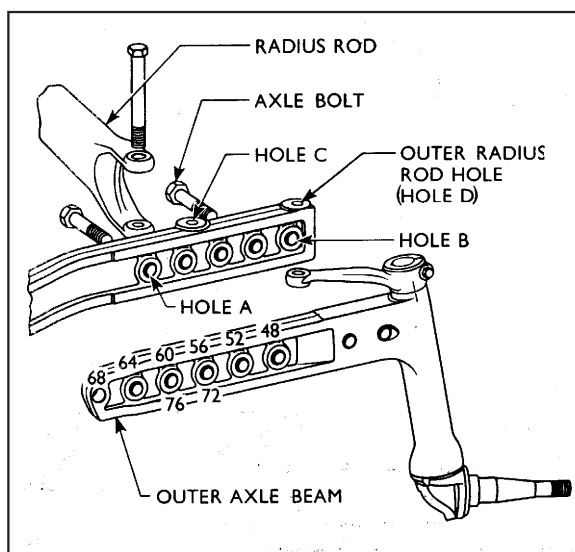

Fig. 2
With standard 4.00x19 tyres, the front wheels are adjustable from 48 ins. to 76 ins. in 4 in. stages when the extension units are symmetrically positioned. With optional rims and 5.50x16 tyres the smallest possible track setting is 52 ins. otherwise the tyres will rub on the radius rods when on maximum lock. The cast figures on the outer axle beams indicate the track width when both outer axle beams are symmetrically positioned. Figures marked on the top flange of the outer axles (Fig. 2) indicate the track width when they line up with the innermost hole (Hole A) of the centre beam. Similarly, the figures on the bottom flange indicate track width when lined up with the outermost hole (Hole B) of the centre beam.
**CAUTION.**-At least one open bolt hole must be left between the axle beam to extension fixing bolts. The wheels must not be reversed on the hubs to obtain a greater track since this results in excessive loading on the bearings and mounting bolts. With track settings at, or below, 56 ins. the radius rods should be located in the inner holes (Hole C, Fig. 2) of the centre beam, but when the track is adjusted to over 56 ins. the radius rods must be moved to the outer holes (Hole D) to maintain rigidity.